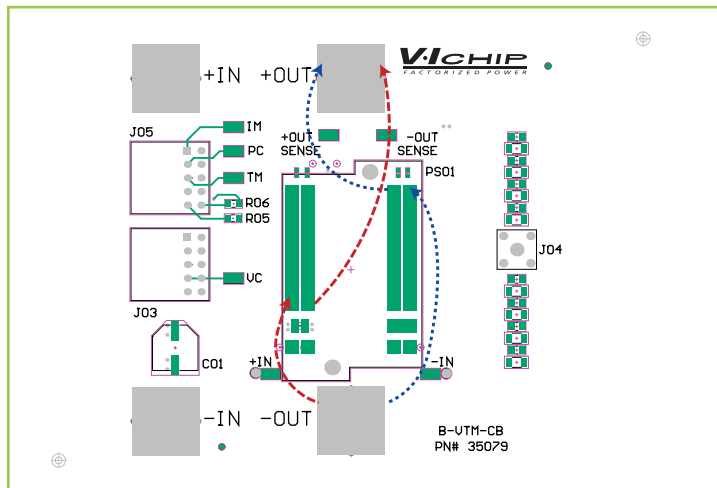

Figure 22 – Equal current path
- The total current path length from any point on the V_{+OUT} J-leads to the corresponding point on the V_{-OUT} J-leads should be equal (see Figure 22).